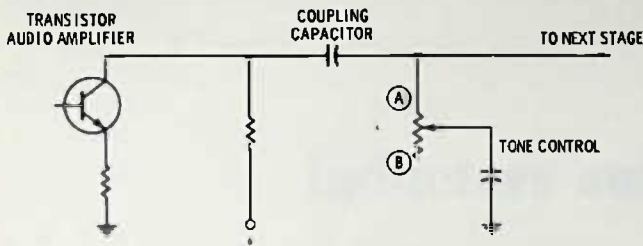

Fig. 2-25. Schematic for Question 49.
49. In Fig. 2-25, if the tone control arm were moved to the **A** position,